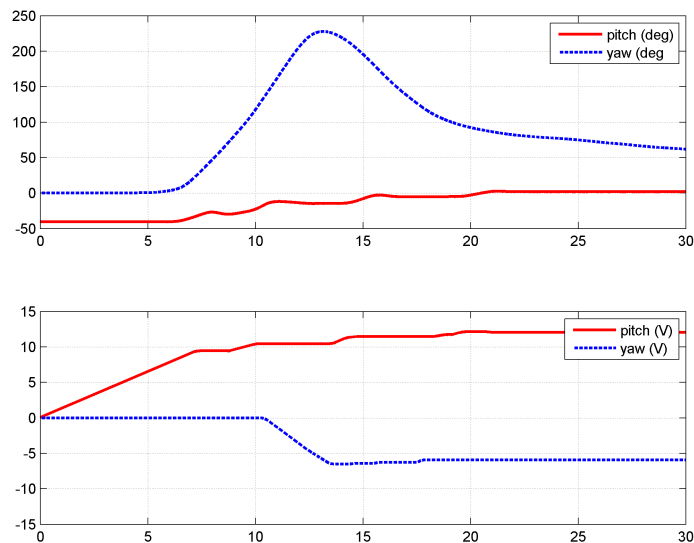

Figure 5.17: Effect of pitch on yaw
15. As depicted in Figure 5.17, you will notice that the yaw angle moves clockwise in the positive direction as the voltage in the pitch motor increases. Compensate for this coupling effect by moving the joystick arm to the left and apply a negative voltage to the yaw motor. As illustrated, the pitch is eventually stabilized at about 0 degrees when the pitch motor voltage is approximately 12.5 V and the yaw begins to stabilize when feeding a voltage of about -6.0 V to the yaw motor.